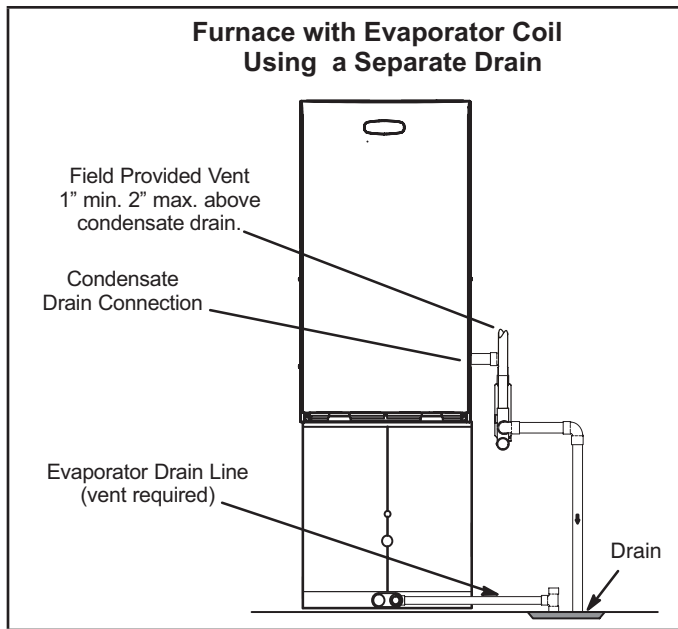
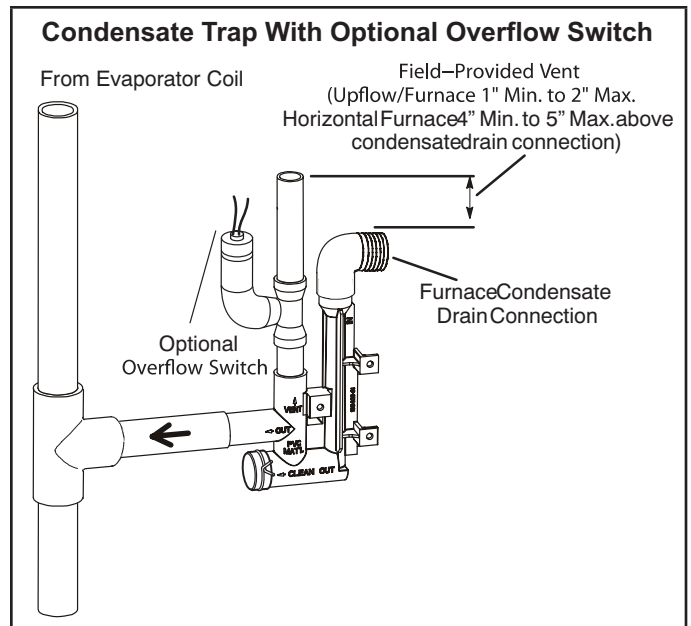

FIGURE 46
FIGURE 48
- 5 - FIGURE 46 shows the furnace and evaporator coil using a separate drain. If necessary, the condensate line from the furnace and evaporator coil can drain together. See FIGURE 47 and FIGURE 48. The field provided vent must be a minimum 1" to a maximum 2" length above the condensate drain outlet connection.